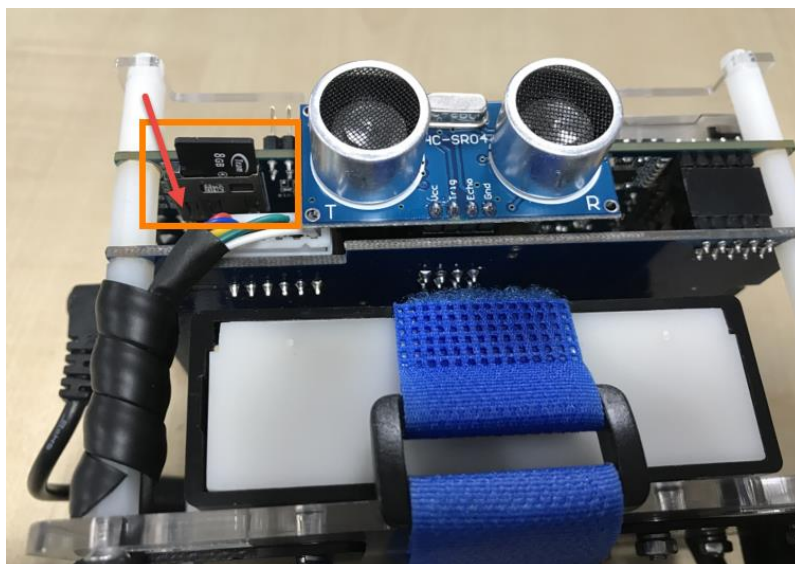
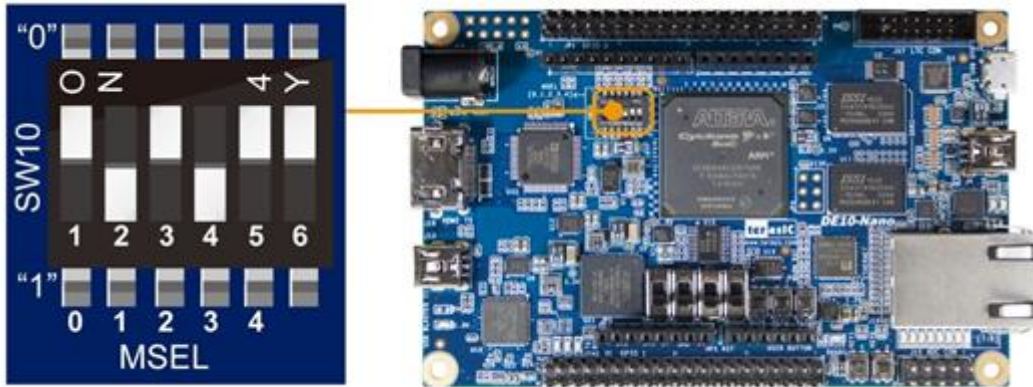

Figure 7-2 Insert the Micro SD card into the robot
Figure 7-3 Set MSEL[4:0] to "01010" for ARM Version Mode
- As shown in **Figure 7-2**, insert the Micro SD card into the robot. And set the mode switch(SW10) MSEL[4:0] to "01010", as shown in **Figure 7-3**.